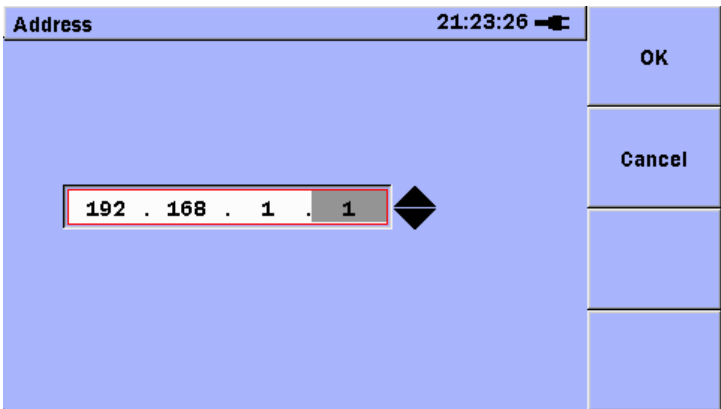

Figure B.1-6 Address Editor
- 2. Highlight and edit the remaining address fields (IP Address, Subnet Mask, and Default Gateway). With the highlight positioned on any address field, press the **Set** key and the address editor will be displayed, as shown in Figure B.1-6.